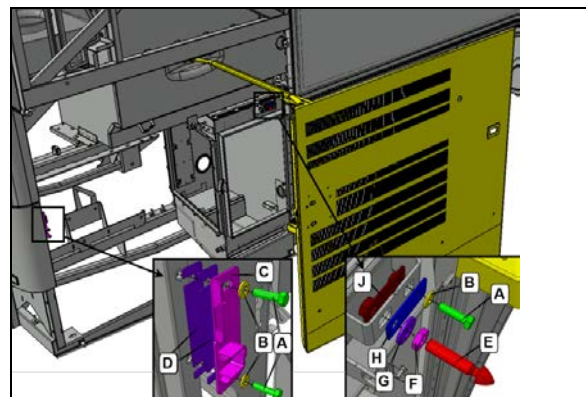

FIGURE 118
9. Install strike plate C and pin E centered in the available adjustment position provided by respective slotted holes (FIGURE 118). The components should be snug but not tight so that they can move when the door will be closed later on in this procedure.